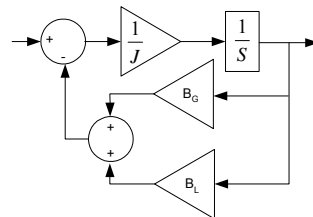
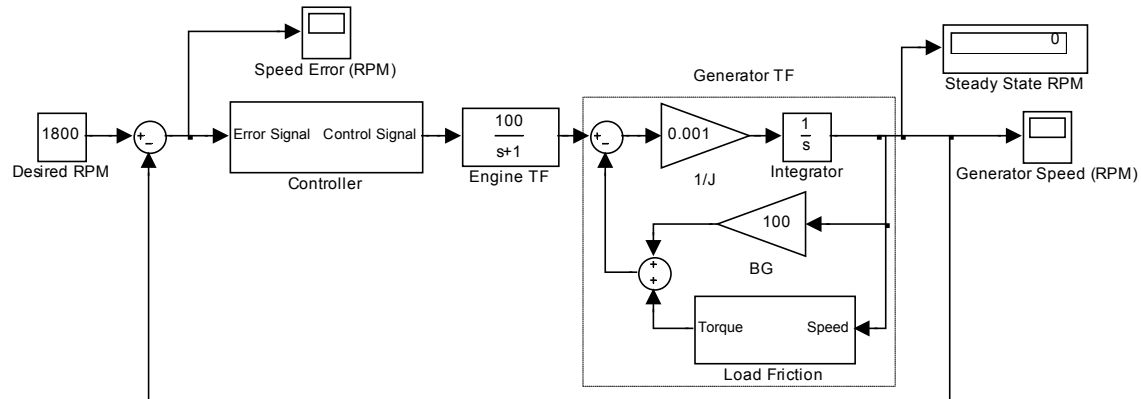

Figure 3: The block diagram of the generator transfer function.
Figure 4: The SIMULINK mode of the generator set.
2) Simplify the block diagram in Figure 3 to show that it is equivalent to $G_G(s)$ listed above. Show the intermediate diagrams.
4d) Sketch a block diagram of the complete generator set model with a proportional controller and the transfer functions for the engine and generator. Use the generator transfer function model from Figure 3. **$J = 1000$ and $B_G = 100$** . Leave B_L as a variable.
Figure 4 depicts the SIMULINK model of the generator set. The generator’s transfer function is modeled as described in Figure 3. This allows the internal friction, B_G , and the load friction, B_L , to be modeled separately. The controller and load friction are both implemented as subsystems in SIMULINK.
5c) Sketch a block diagram of the complete generator set model with a **proportional-derivative** controller and the transfer functions for the engine and generator. Use the generator transfer function model from Figure 3. **$J = 1000$ and $B_G = 100$** . Leave B_L as a variable.